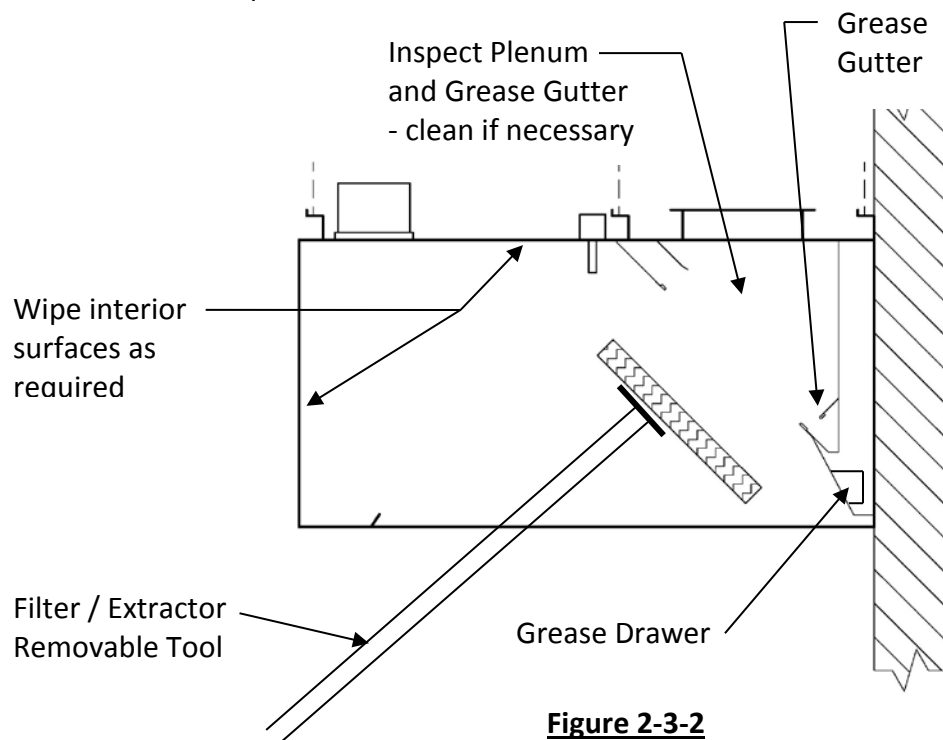

Figure 2-3-2
1. Remove filters/Extractors: **Caution:** Care should be taken when removing the filters/Extractors, especially over fryers. It is recommended that the cooking equipment be cooled down and the fryers be covered prior to removing. They may be removed by hand or by use of an optional Filter/Extractor Removal Tool (Refer to Figure 2-3-2). To remove, lift up slightly on the Filter/Extractor and pull out from the bottom, then straight down.